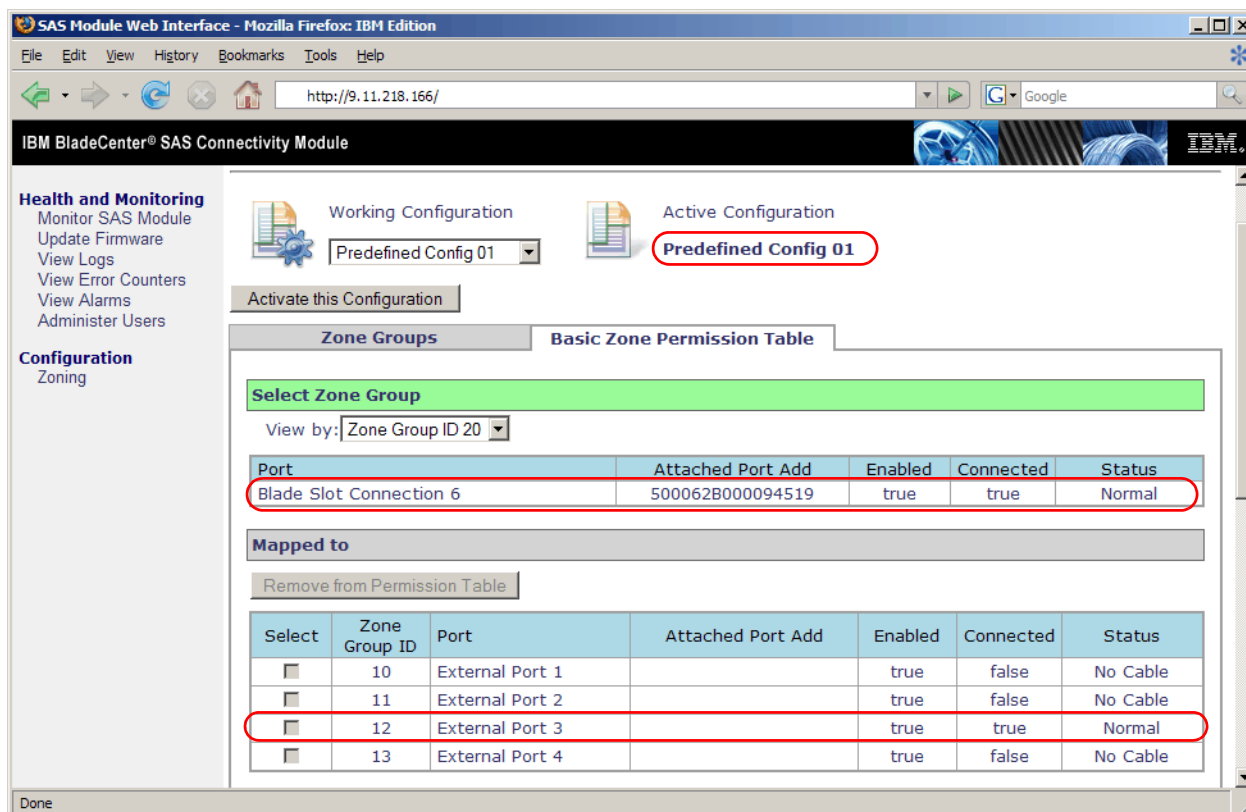

Figure 20-41 SAS Connectivity Module - Confirm zone configuration
2. Verify that the active zone configuration on the SAS Connectivity Module in I/O module bay 4 includes the host port in blade slot 6 and the external port to DS3200 System Storage subsystem controller B. This is done by logging on to the Web interface of the SAS Connectivity Module in bay 4 and viewing the “Predefined Config 01” zone configuration, as shown in Figure 20-41.
3. In the DS3200 Storage Manager Subsystem Management window, on the Modify tab, select **Edit Host Topology**, as shown in Figure 20-41.